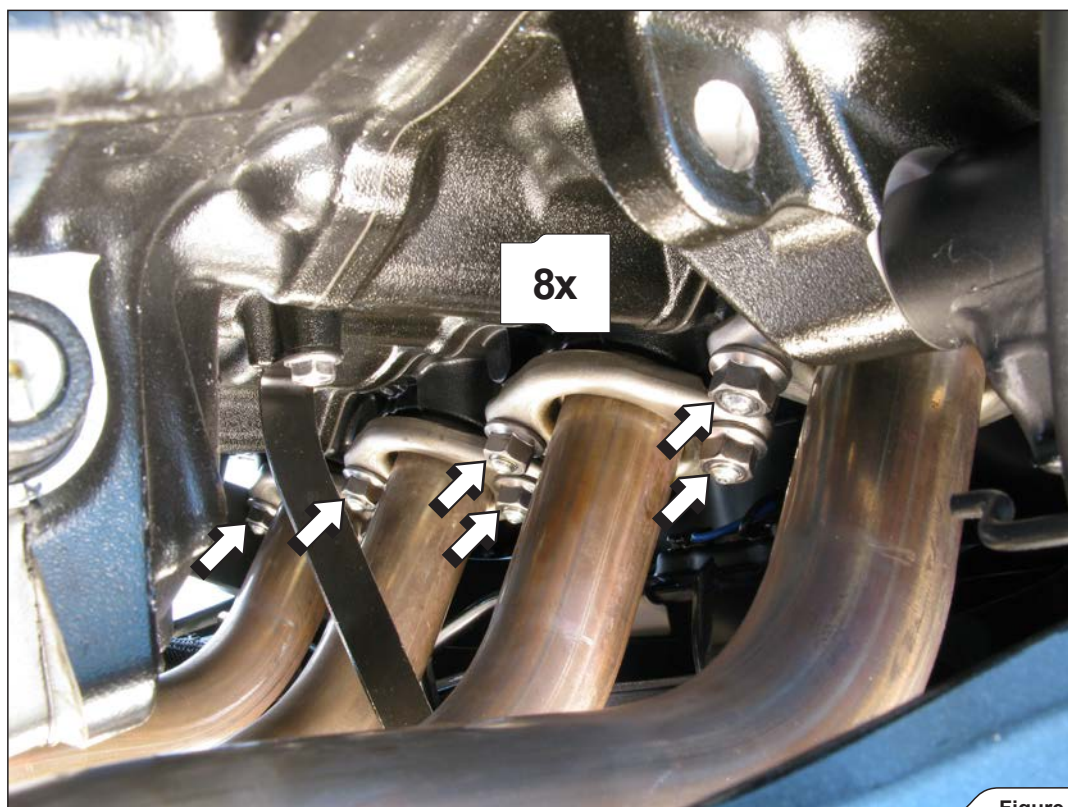

Figure 5
6. Unscrew all flange nuts (Figure 5).